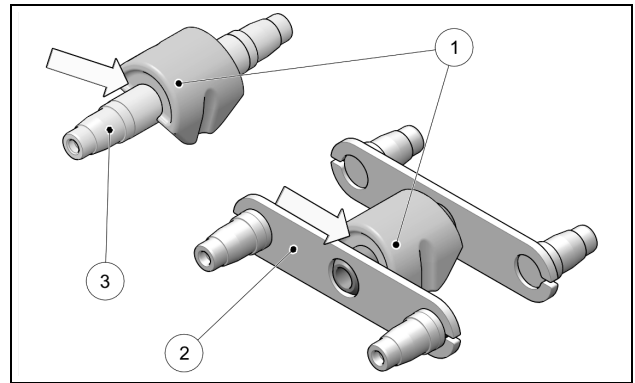

Figure 42
Verify if vulcanized rubber supports (1) on Stabilizers (2) and Wheel Shafts (3) are well secured and are not showing signs of detachment (ungluing) between components. Figure 42.